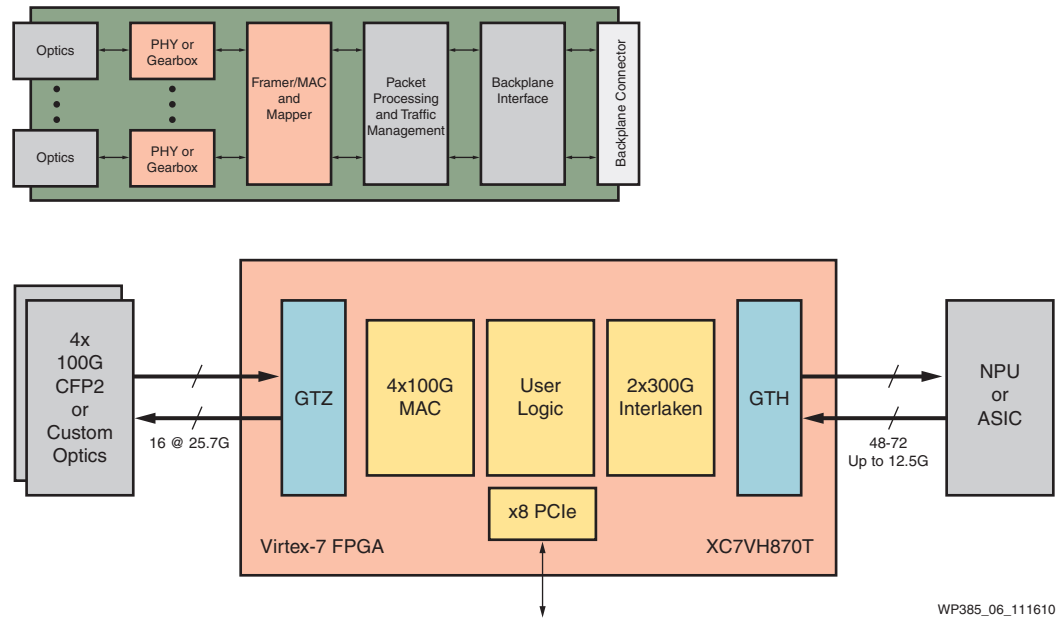

Figure 6: 400G Line Card Implementation
Virtex-7 H870T FPGAs enable manufacturers to be first to market with 400GE line cards. These devices incorporate 16 GTZ transceivers for 400 Gb/s optical interfaces and up to 72 x 10.3125 Gb/s GTH transceivers for interfacing to as many as four ASICs/NPUs. With a capacity of 864,000 logic cells and 64.8 Mb of block RAM, these FPGAs enable sophisticated, high-performance in-line data processing (Figure 6 and Table 3).
**Note:** In Figure 6 to Figure 9, the red blocks at the top of each figure identify the portions of the line card architecture integrated into a single Virtex-7 FPGA.